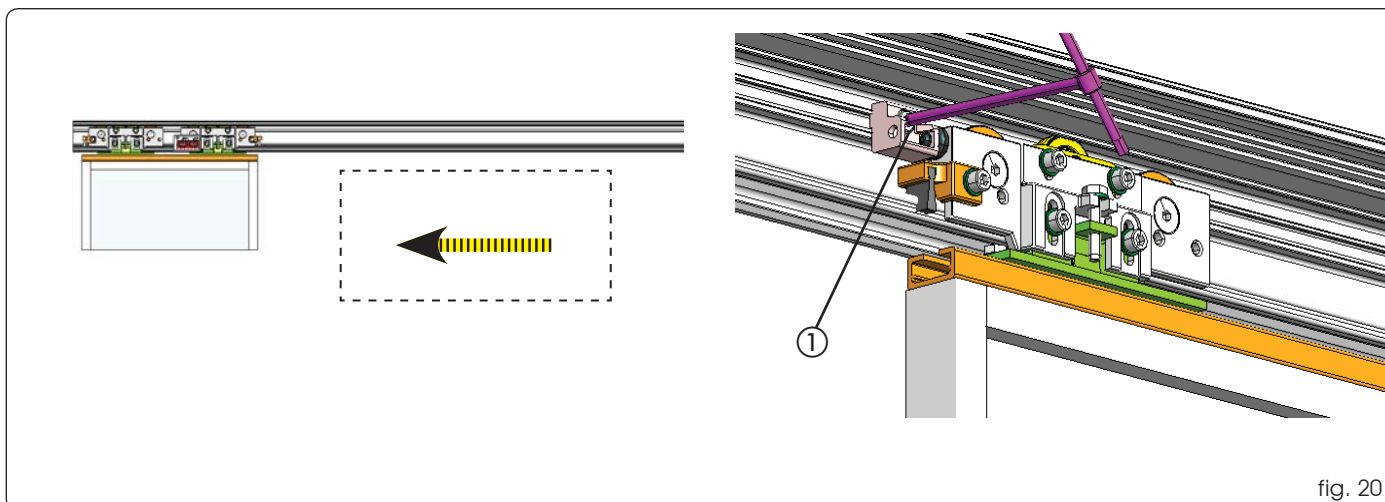

fig. 20
- Take the leaf or leaves into opening position (fig. 20), take the mechanical stop near to the carriage until the two parts touch and tighten the lock nut (Fig. 20 ref. ①).